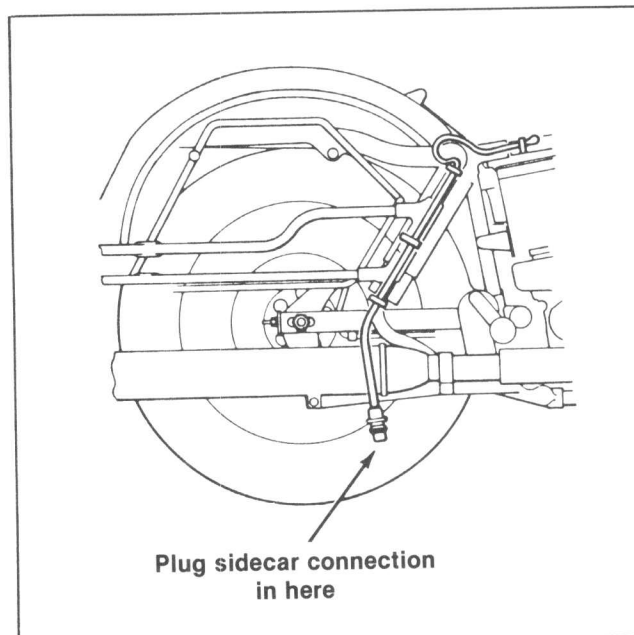

Figure 6-5. Wiring Connection
8. Remove bulb from right rear turn signal and install in sidecar turn signal. Install sidecar wiring connection to motorcycle wiring connection as shown in Figure 6-5.
1. Remove bulb from sidecar turn signal and install in motorcycle right rear turn signal. Disconnect sidecar electrical connection from motorcycle (See Figure 6-5).